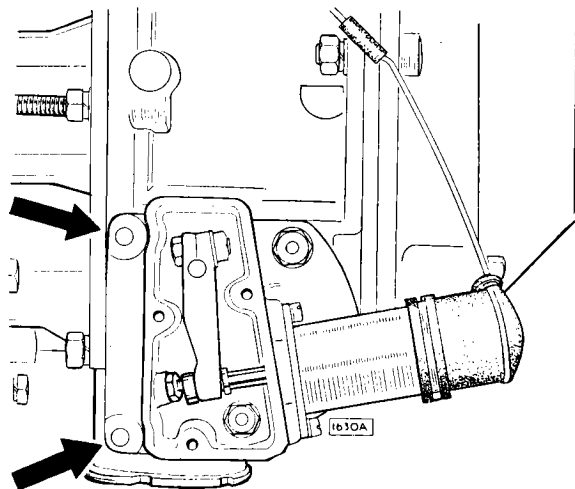

Fig. 38. *Removing the solenoid bracket—remove the nuts from the studs before unscrewing the two setscrews.*
6. The solenoid bracket is secured by two $\frac{5}{16}$ " (7.94 mm.) diameter studs and two $\frac{5}{16}$ " (7.94 mm.) diameter bolts, the heads of which are painted red (see Fig. 38). REMOVE THE NUTS FROM THE STUDS BEFORE TOUCHING THE BOLTS. THIS IS IMPORTANT. The two bolts should now be slackened off together, releasing the tension on the accumulator spring.